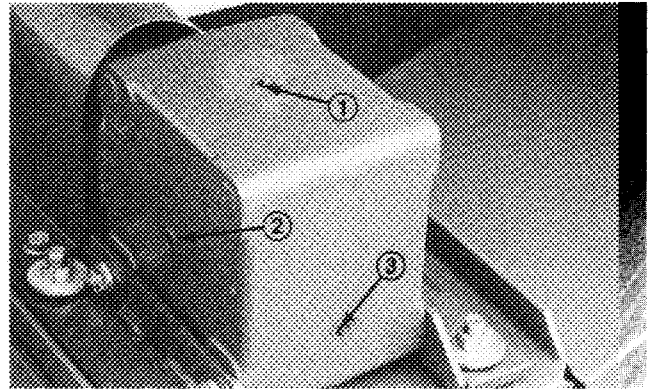

Figure 18
2. Lower cutting unit so castor wheels are on a level surface. Be sure all height-of-cut pins are in the same hole locations. Remove check plug (Fig. 18) from side of gear box and check level of lubricant. If level of lubricant is low, remove fill plug on top of gear box and add SAE 80-90wt. gear lube until level is up to bottom of check hole.